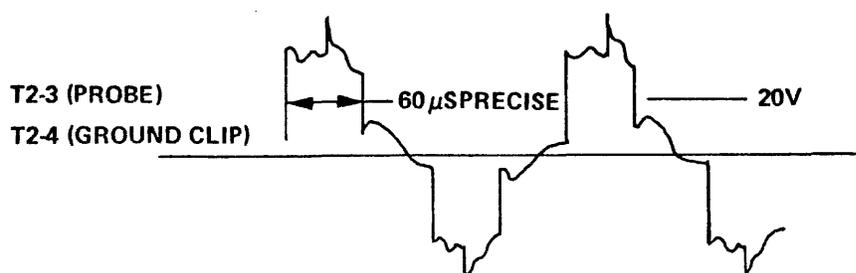

Figure 4-12. Inverter Pulses
- d. Adjust the VCO card DELAY control (R37; R61 on master/slave capable supplies) to obtain an inverter pulse length of 60 ± 2 usec. Refer to figure 4-12.